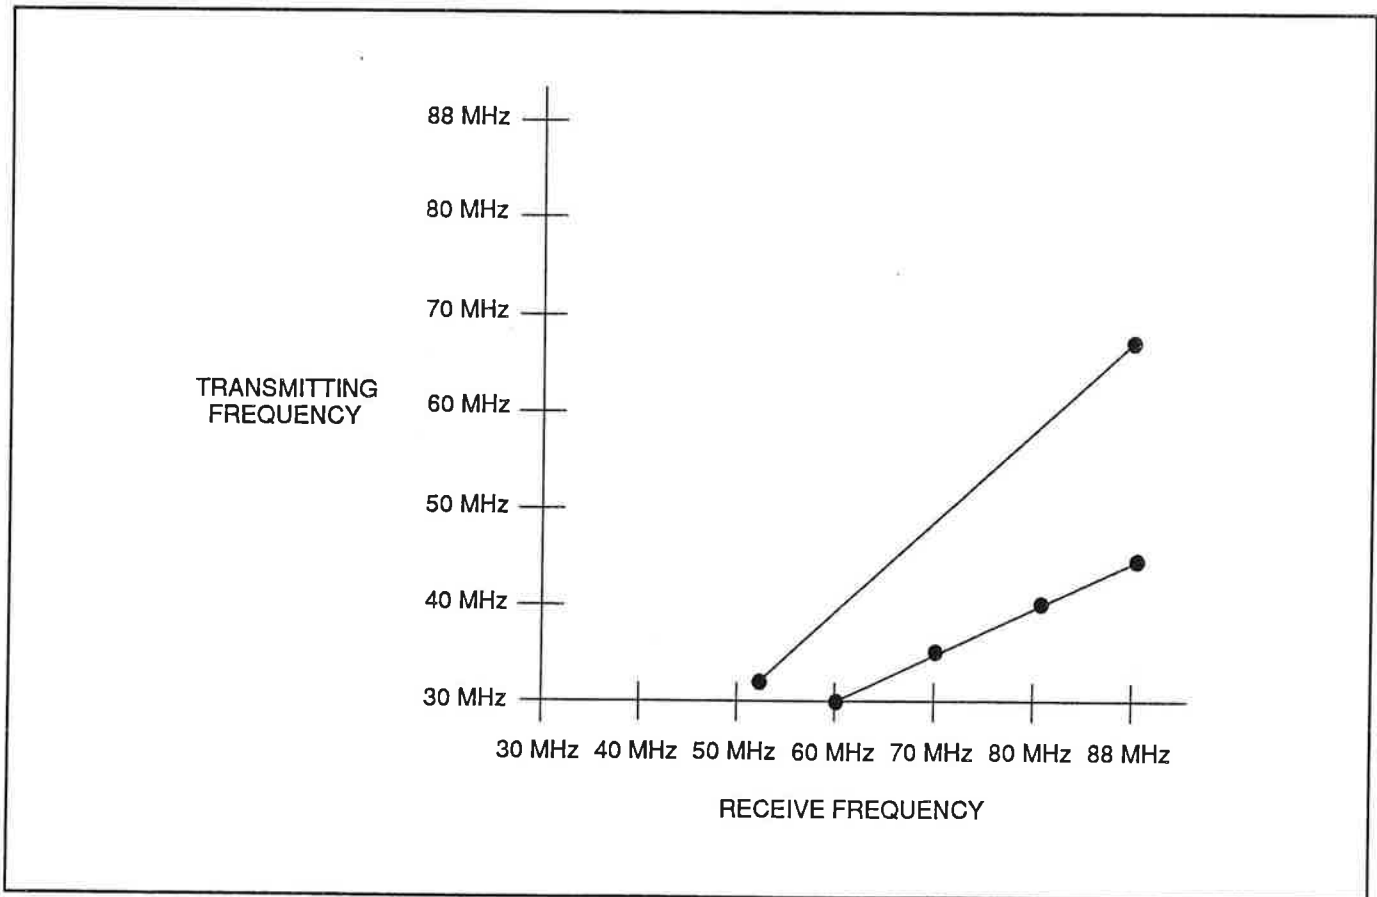

FIGURE 7-1.
- b. Selection of Frequencies - The receive and transmit frequencies should be separated by at least 5 MHz. Some combinations of frequencies may cause interference in the receiver. Check first in the interference chart (Figure 7-1),